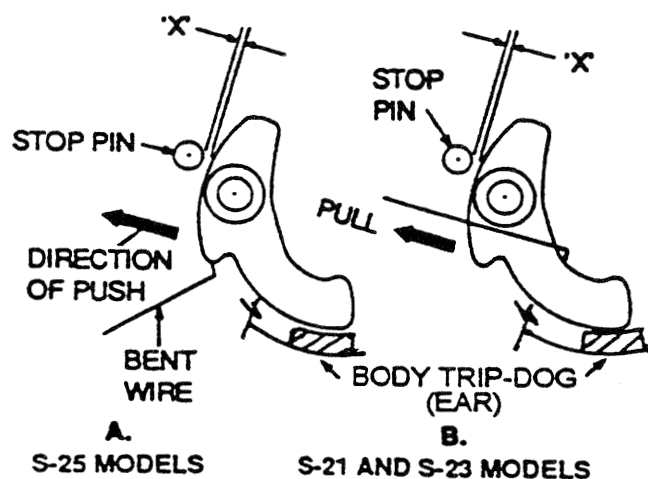

Figure 605. Flyweight To Axle Wear Check
- (4) Insert feeler gage between the stop pin and flyweight to determine clearance ("X" of Figure 605) while the flyweight is forced outward. Maintain constant outward force on the flyweight while measuring clearance to ensure accuracy.